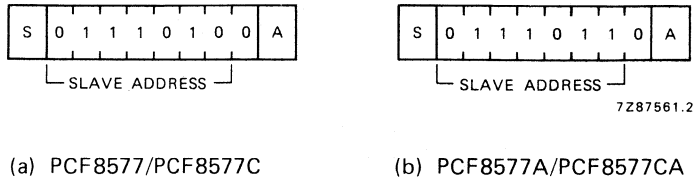
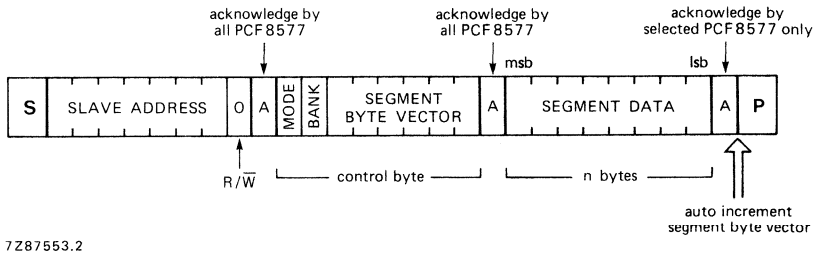

Fig.6 PCF8577 slave addresses.
Fig.7 I²C-bus protocol.
There are two slave addresses, one for PCF8577/PCF8577C, and one for PCF8577A/PCF8577CA (see Fig.6). All addressed devices load the second byte into the control register and each device maintains an identical copy of the control byte in the control register at all times (see I²C-bus protocol Fig.7), i.e. all addressed devices respond to control commands sent on the bus.
The PCF8577 slave addresses are shown in Fig.6.
The PCF8577 I²C-bus protocol is shown in Fig.7.
The PCF8577 is a slave receiver and has a fixed slave address (Fig.6). All PCF8577s with the same slave address acknowledge the slave address in parallel. The second byte is always the control byte and is loaded into the control register of each PCF8577 on the bus. All addressed devices acknowledge the control byte. Subsequent data bytes are loaded into the segment registers of the selected device. Any number of data bytes may be loaded in one transfer and in an expanded system rollover of the SBV from 111 111 to 000 000 is allowed. If a stop (P) condition is given after the control byte acknowledge the segment data remains unchanged. This allows the BANK bit to be toggled without changing the segment register contents. During loading of segment data only the selected PCF8577 gives an acknowledge. Loading is terminated by generating a stop (P) condition.